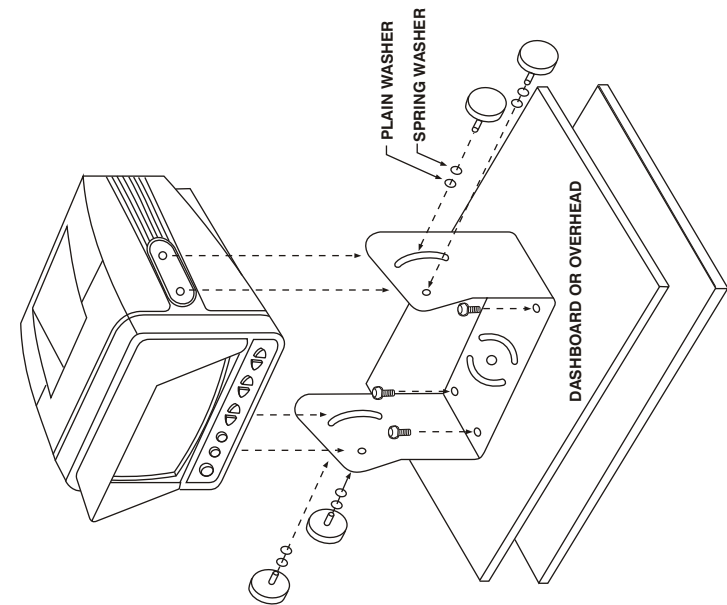

FIGURE 1
2. Use a compression plate to attach the monitor bracket to the dash or overhead (See Fig. 1).